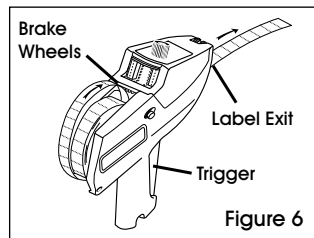

Figure 6
4. Squeeze and hold the trigger while feeding the label strip into the slot below the brake wheels until about 6" come out of the front. (See Figure 6)